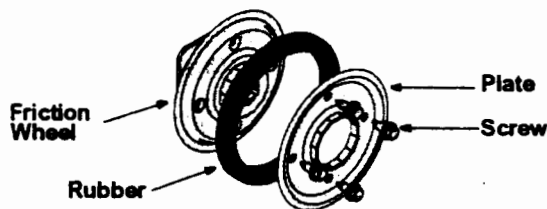

Figure 24
8. Remove the four screws from the friction wheel assembly. Remove friction wheel rubber from between the friction wheel plate. See Figure 24.
9. Reassemble new friction wheel rubber to the friction wheel assembly, tightening the four screws in rotation and with equal force. See Figure 24.